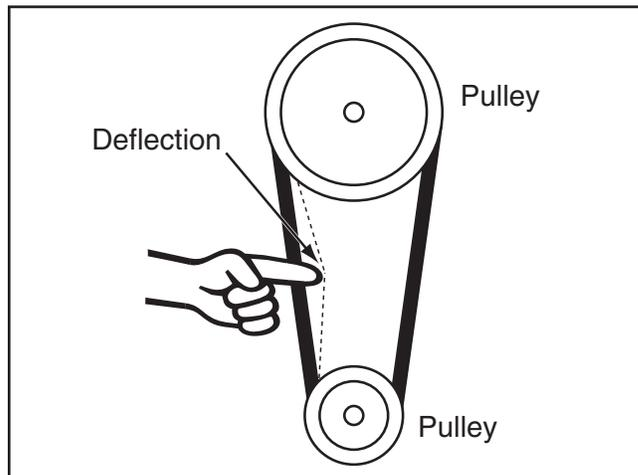

Figure 60. Checking for belt deflection.
3. When moderate pressure is applied to the belt between the pulleys (see **Figure 60**), there should be approximately 1/2" of belt deflection.